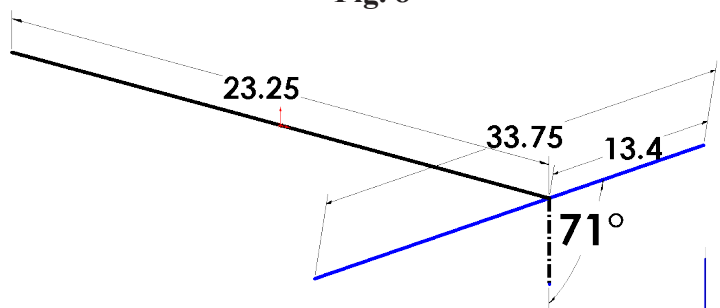

Fig. 9
Step 19. Dimension angle **71 degrees**, **Fig. 9**.